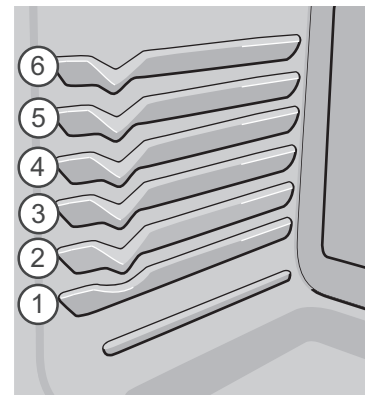

Figure 25: Oven rack positions
- Place pan in oven on either rack position 2 or 3 (Figure 25) and close oven door. Accela-Heat is designed for baking on a single oven rack placed in the center of the oven.